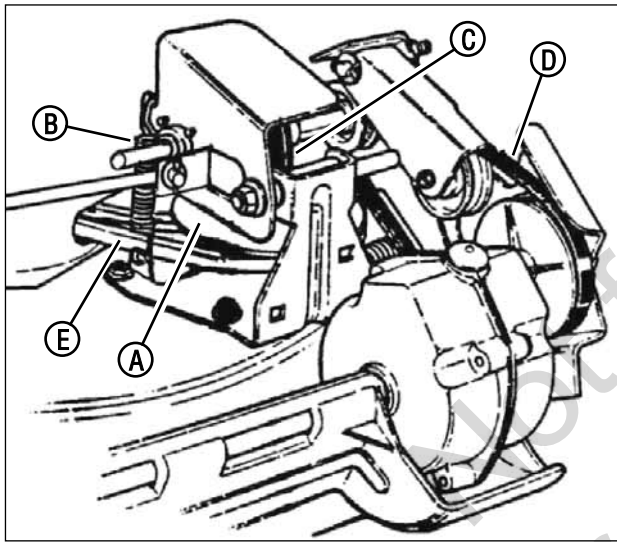

Figure 24: Wheel drive components
1. Grease on the drive disc (A, Figure 24) causing slippage.
2. Broken or disconnected drive spring (B).
3. Driven disc (C) is out of adjustment.
5. Worn Poly-V belt (D) or engine drive belt (E).